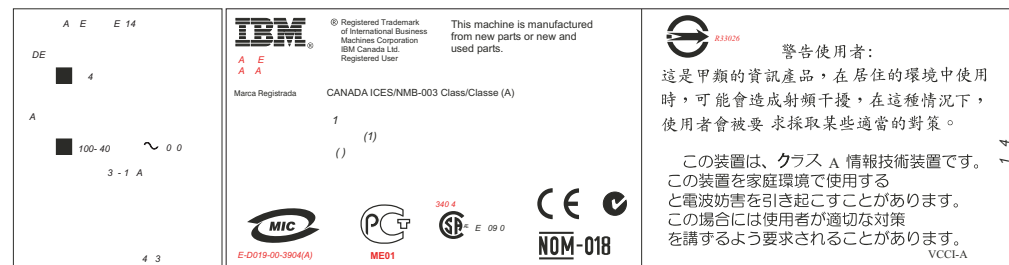

Figure 3. Agency/ratings label for the SAN Volume Controller
1. Agency/ratings label. See Figure 3.